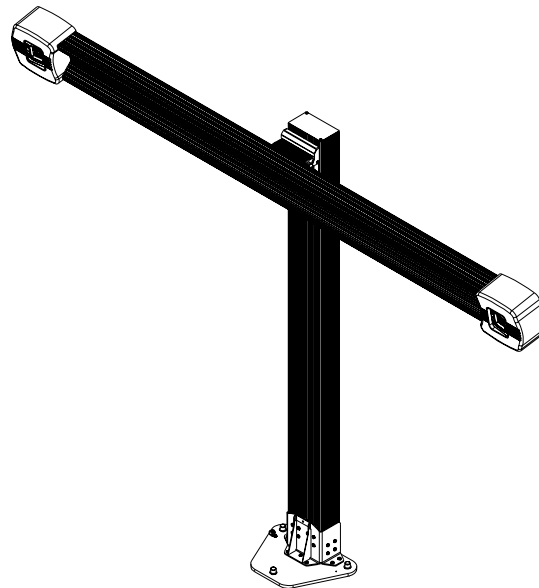

Figure 10
5. Raise the camera beam to the desired height as recorded earlier in the *Installation Dimensions Worksheet*. Use a torque wrench with a 1/2 inch socket to tighten all four ESNA nuts to 40-50 in-lbs torque. Figure 10.